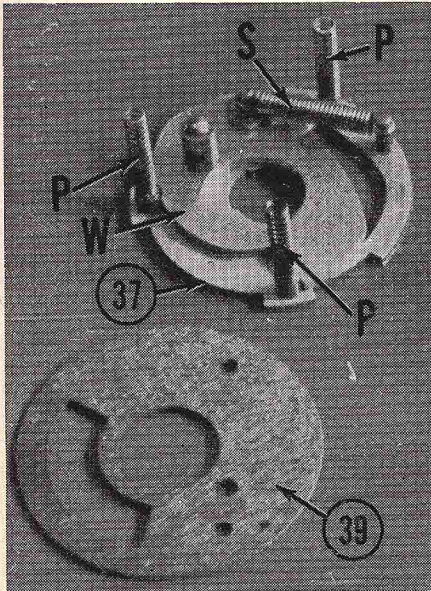

Fig. HL23 — Speed governor and rotary inlet valve used on some models. Refer also to Fig. HL17.
**ROTARY VALVE.** The combination rotary type inlet valve and governor (Fig. HL23) should be rejected if any of the following conditions are encountered during inspection: